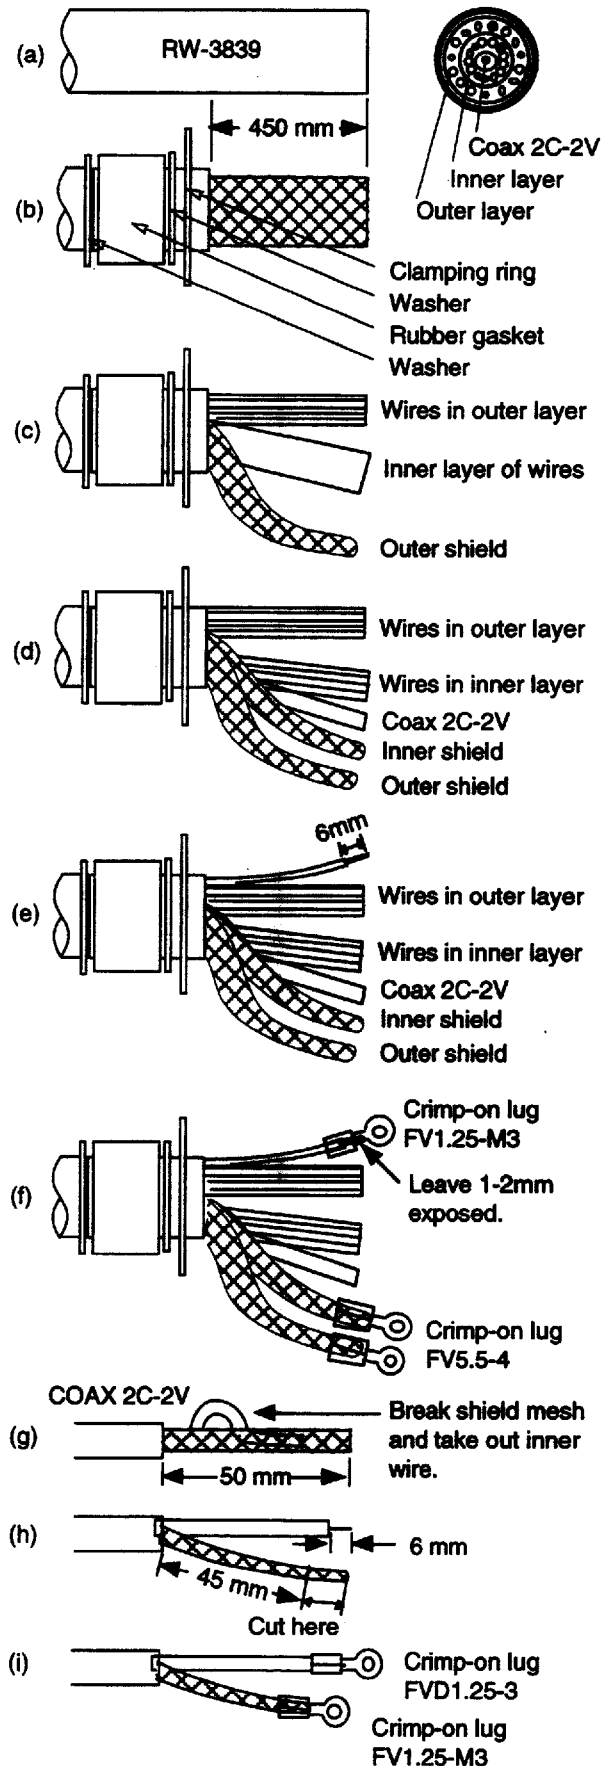

Figure 13 Fabricating signal cable RW-3839
- 7) Fabricate the coaxial wire as shown in g) and h) in Figure 13. Make the length of the wire 10mm longer than the shield to prevent wire strain. Attach crimp-on lug FVD1.25-3 (red, $\phi 3$) to the coaxial wire and FV1.25-M3 to the shield.